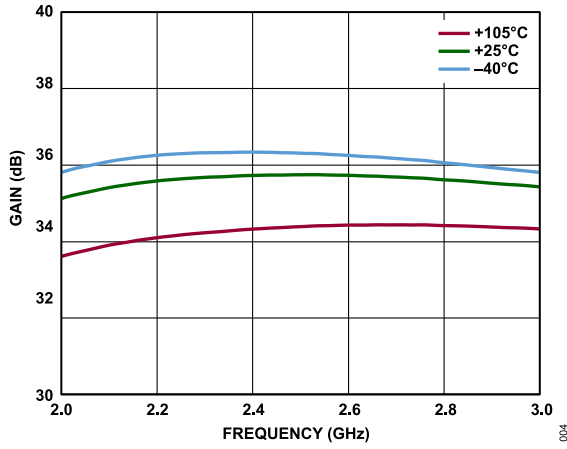
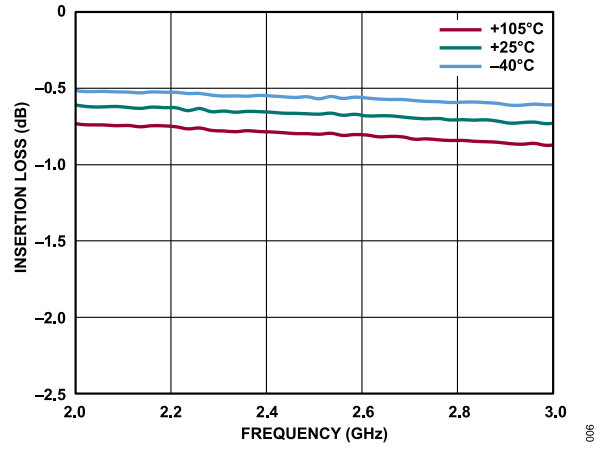

Figure 4. Gain vs. Frequency at Various Temperatures
Figure 6. Insertion Loss vs. Frequency at Various Temperatures
5. The ADRF5532-EVALZ is expected to have a receive gain of 35.5 dB and transmit insertion loss of 0.7 dB at 2.6 GHz. See the expected results in Figure 4 to Figure 6.